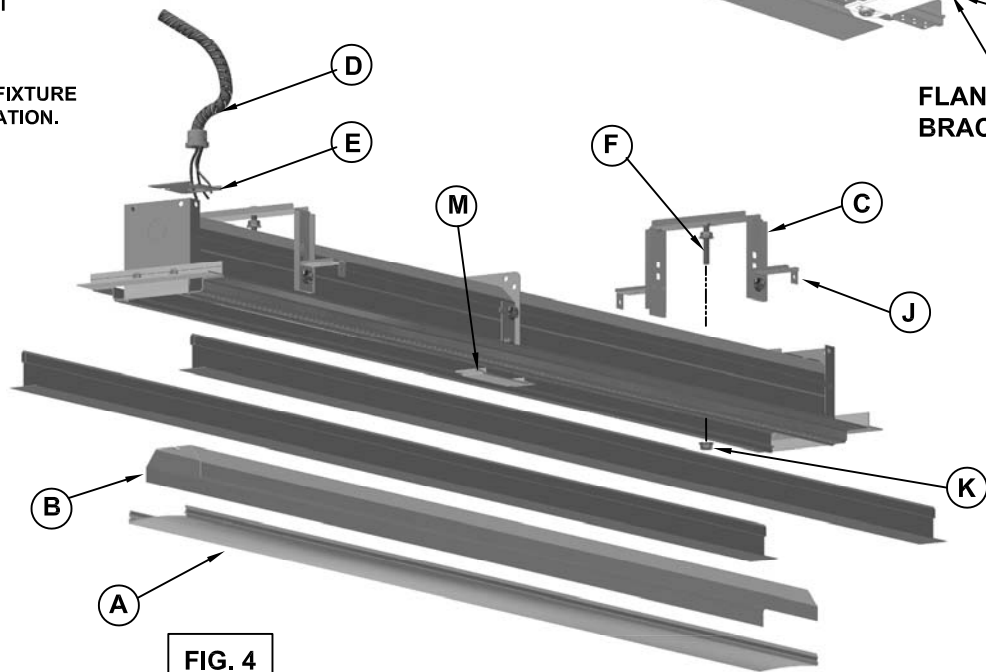

FIG. 4
REMOVE DIFFUSER (A) AND REFLECTOR (B) FROM FIXTURE. REMOVE LOWER NUT (K) FROM YOKE ASSEMBLY (C) AND ADJUST UPPER JAM NUT (L) TO THE UPPERMOST POSITION. ATTACH TWO YOKE ASSEMBLIES (C) TO HOUSING THROUGH MOUNTING HOLES PROVIDED WITH PREVIOUSLY REMOVED NUT. (REF. FIG. 4)
REMOVE ACCESS PLATE (E) AND PULL FIXTURE LEADS OUT THROUGH OPENING. REMOVE KNOCK-OUT FROM ACCESS PLATE AND INSTALL FLEXIBLE CONDUIT FEED (D) TO ACCESS PLATE. ATTACH GROUND WIRE TO STUD ON INSIDE OF ACCESS PLATE AND MAKE OTHER WIRE CONNECTIONS MAINTAINING COLOR CODING OF WIRES. PUSH EXCESS WIRE INTO FIXTURE HOUSING AND SECURE ACCESS PLATE TO HOUSING INSURING THAT WIRES ARE NOT PINCHED BETWEEN FIXTURE AND ACCESS PLATE. (REF. FIG.4)